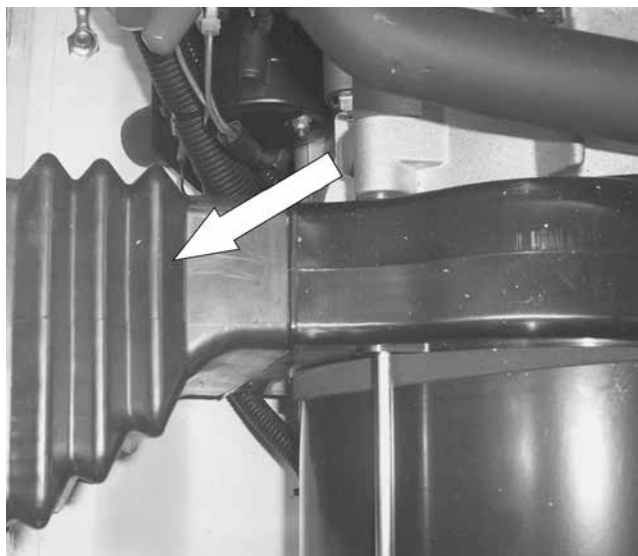

Figure 270.
15. **Alternator Air Intake Bellows Removal:** Remove alternator intake bellows. See Figure 270.